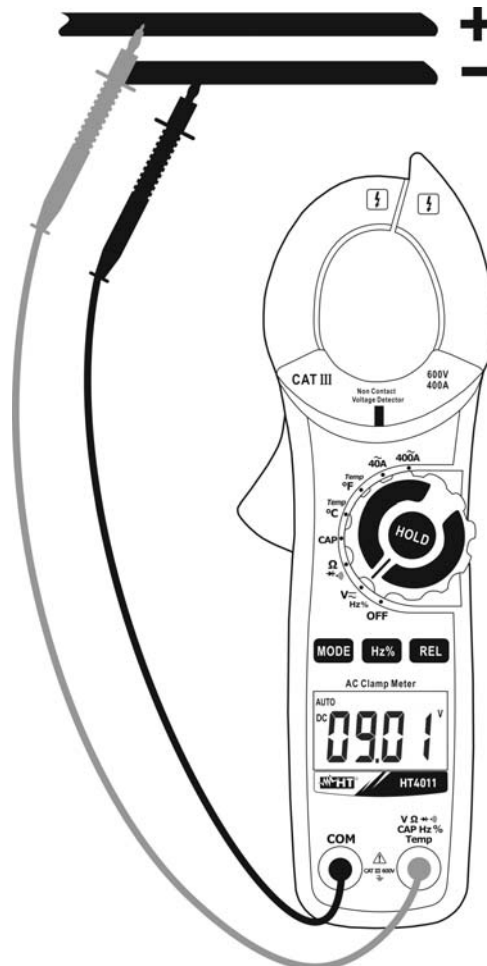

Fig. 2: Use of the clamp for DC voltage measurement
2. Insert the red cable into input terminal **VΩ→+)**CAPHz%Temp and the black cable into input terminal **COM** (Fig. 2).